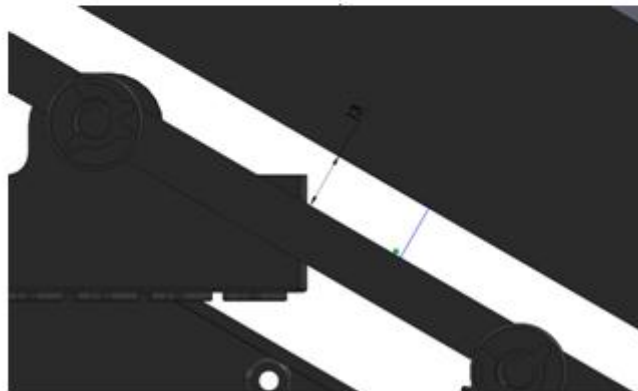

Figure 2↵
- + When the gap between the chain and the tube is adjusted to 38mm your training can continue. (see figure 2)